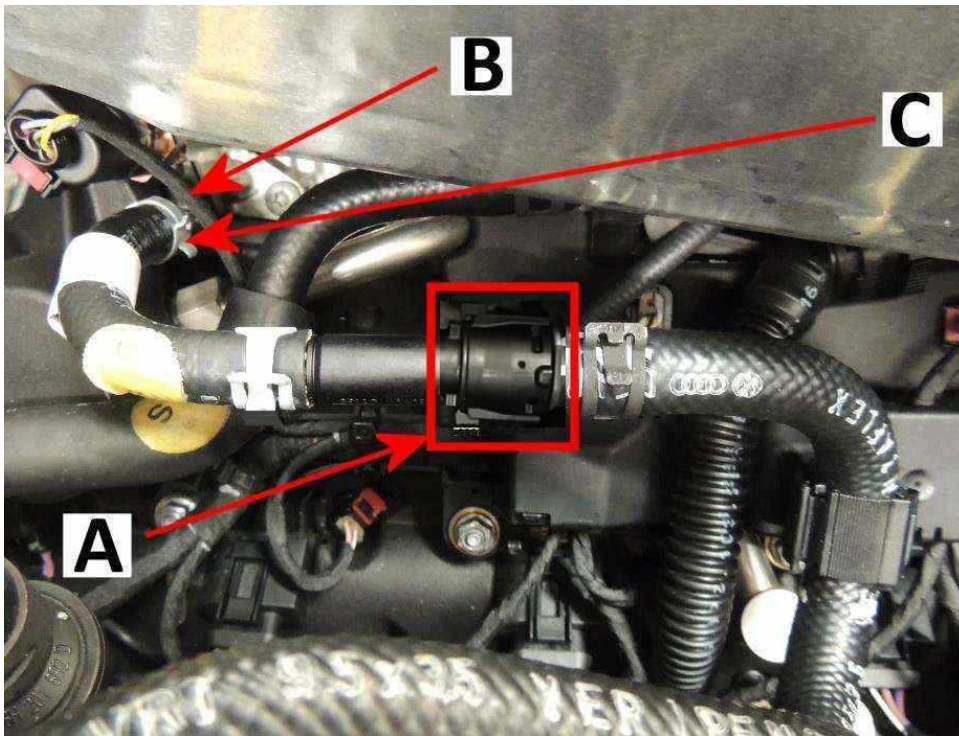

Figure 3
4) Referring to Figure 3 - Install the new hose (06M 133 986S) as follows:
Connect the quick connector (Figure 3 Point A) Ensure the latch is fully located/locked - Refer to Repair manual Rep.Gr 20 "Special instructions for fuel system quick connectors" carry out all instructions as per Repair manual instructions you must ensure all instructions within the Repair manual instructions are strictly adhered to
CAUTION Carry out a pull test to confirm correct fitment of the quick connect (Figure 3 - Point A) - Do not rely on an audible click to confirm that a secure connection has been made
- Ensure the orientation of the harness is as shown in (Figure 3 - Point B)
- Referring to (Figure 3 - Point C) - Install the hose onto the metal pipe - Use Hose clip pliers - ASE45149200000 fit the spring band clip